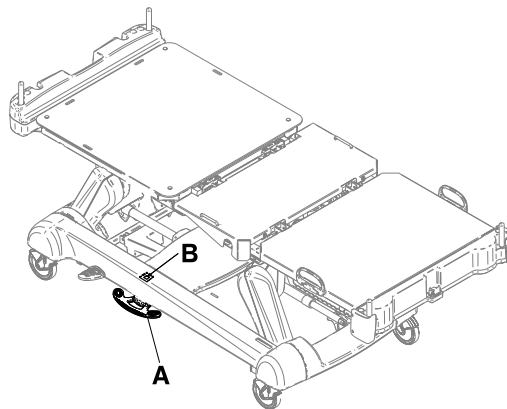

Figure 1-6: Brake pedal window
2. Fully depress the brake pedal (A) until **Brake** appears in the brake pedal window (B) (Figure 1-6 on page 1-21).
To release the manual brakes, depress the pedal until **Neutral** or **Drive** appears in the brake pedal window (B) (Figure 1-6 on page 1-21).